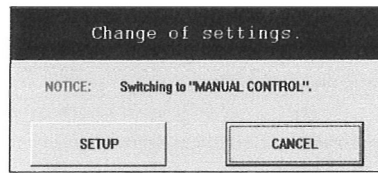

Fig.36
④ Clicking on "SETUP" brings up a message box as shown in Fig. 36.